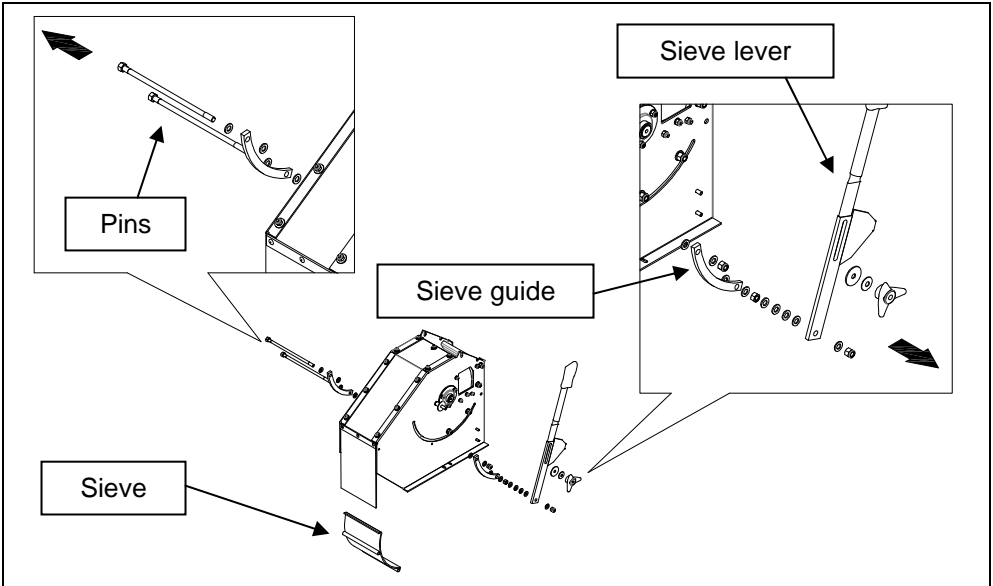

Fig. 24
- Unscrew the nuts and counter-nuts of the guides and sieve lever (Fig. 24).